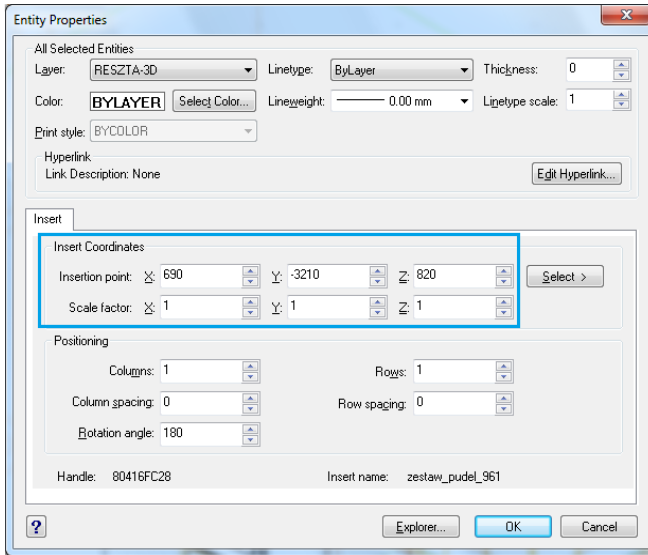

Fig. 167 – Entity properties dialog box
- confirm the changes by clicking **Ok** (Fig. 167);